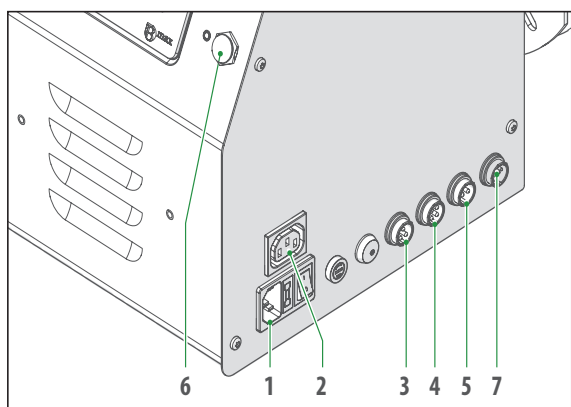

Fig. 16 Connection to the mains
- D) Connect the burner power cable to the mains (1 fig. 16).